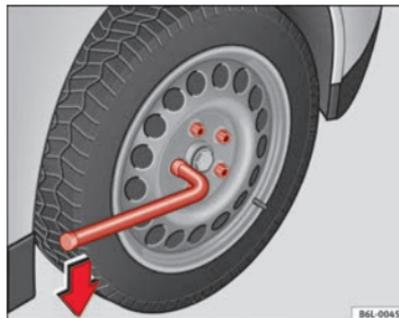

Fig. 137 Changing the wheel: loosen the wheel bolts
- Grasp the box spanner by the end turn it about one full turn to the **left** ⇒ fig. 137.